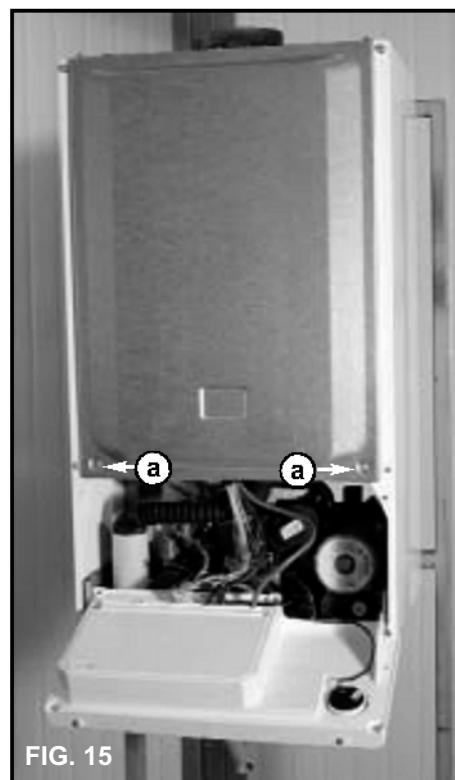

FIG. 15
- 4) Remove screws (marked 'a' on **fig 15**) from the combustion chamber cover and lift off.